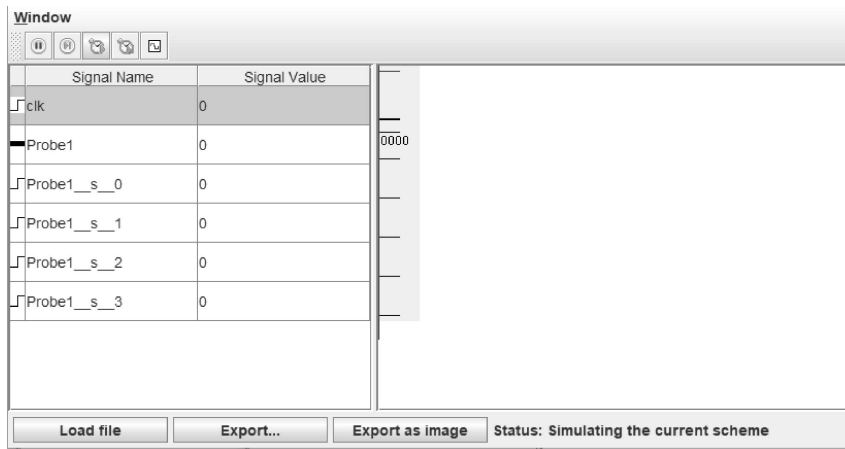

Figure 6.11: Chronogram At Zero Time
13. At this point, the chronogram should look like Figure 6.11.